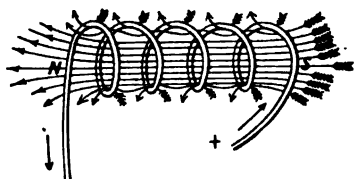

FIG. 231.—The magnetic field of a helix.
**257. Magnetic Field of a Helix.**—If a wire be wound about a cylinder to form a cylindrical coil with parallel turns, it forms a *helix* or *solenoid*. The shape of the magnetic field about a current depends upon the *form* of the conductor. If the latter is in the form of a *helix* its magnetic field resembles that of a straight bar magnet. (See Fig. 231). In fact the helix *has the properties of a magnet* with north- and south-seeking poles while a *current* is *flowing* through it. If such a coil is suspended so as to turn freely, it tends to turn until the field within it is parallel to the earth's magnetic field. Such a suspended helix may therefore be used as a compass. In order to strengthen the magnetic field of a helix or solenoid, the space within its turns is filled with iron, often in the form